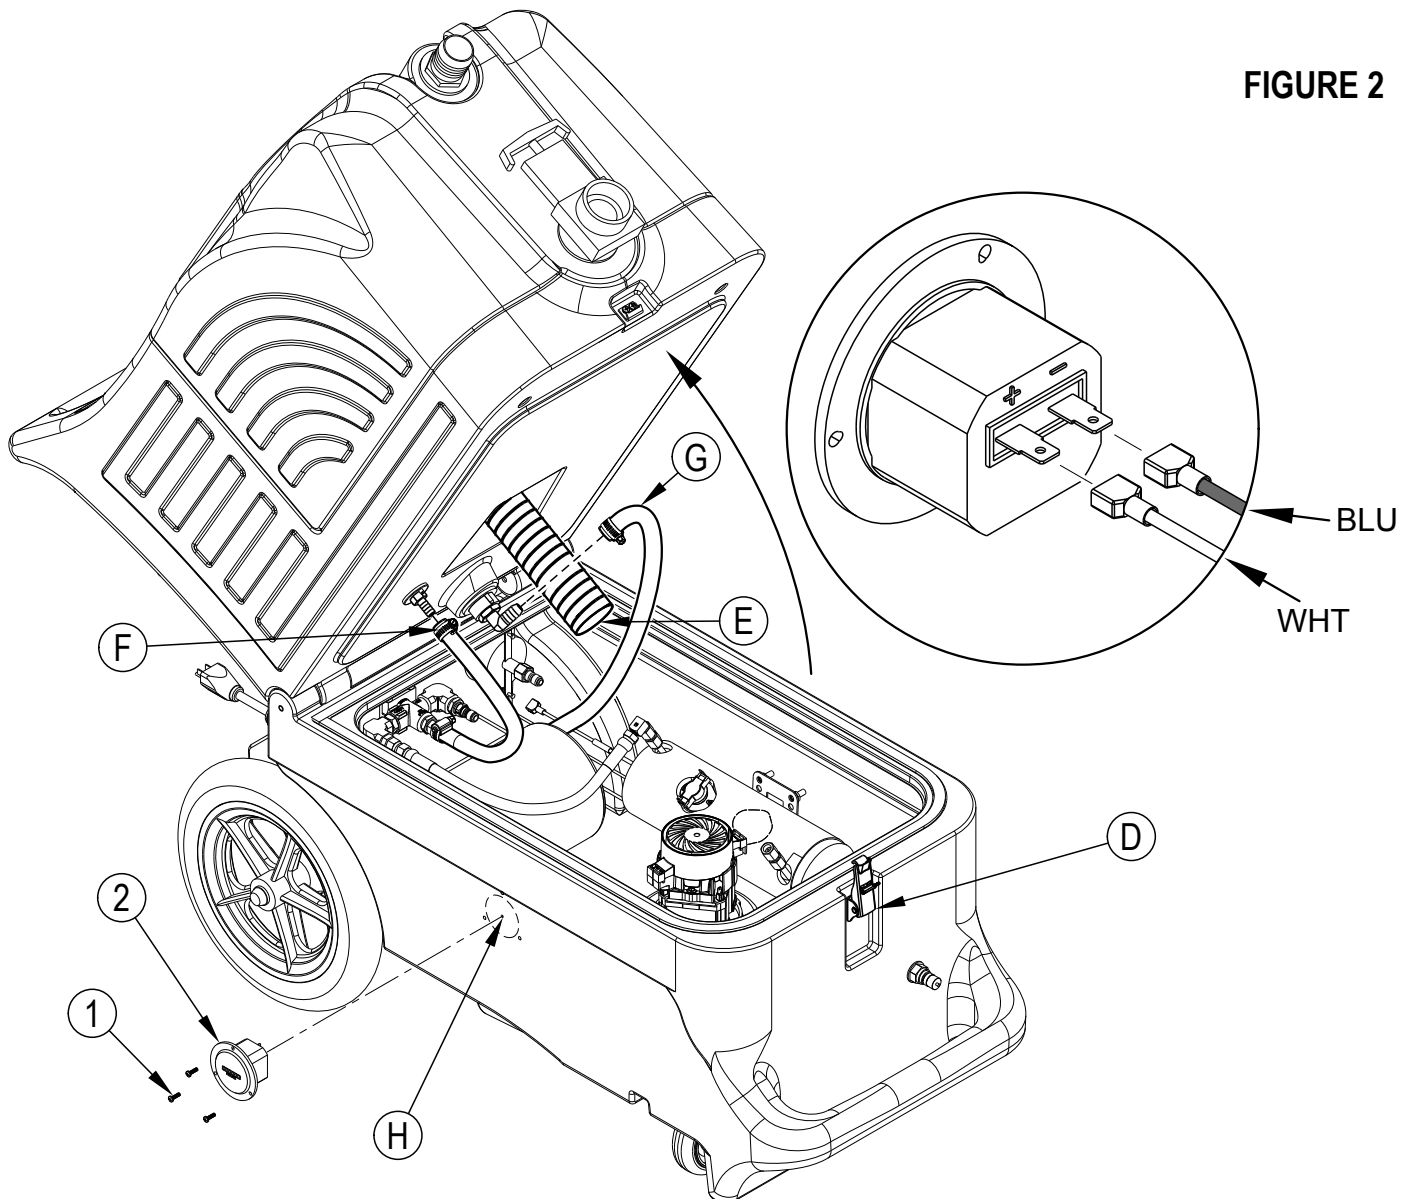

FIGURE 2
- 2 See Figure 2. Unlatch the tanks from the base at Latch (D).
- 3 Tip the tanks back and prop them open. **NOTE:** The Vacuum Hose (E) and Solution Hoses (F & G) can be disconnected to allow the tanks to tip back completely and allow additional access.
- 4 Locate the Drill Point (H) on the right side base of the machine. Carefully use a hole saw to drill a 2" (5 cm) diameter hole at the drill point, being sure not to damage any components inside the base. Vacuum out any plastic shavings created by drilling the hole.
- 7 Insert the Hour Meter (2) into the opening and tuck the wires inside. Carefully center the hour meter in the opening and rotate it so that the display is horizontal. Secure the hour meter using the three supplied Screws (1). **NOTE:** No pilot holes are required simply drill the screws into the machine.